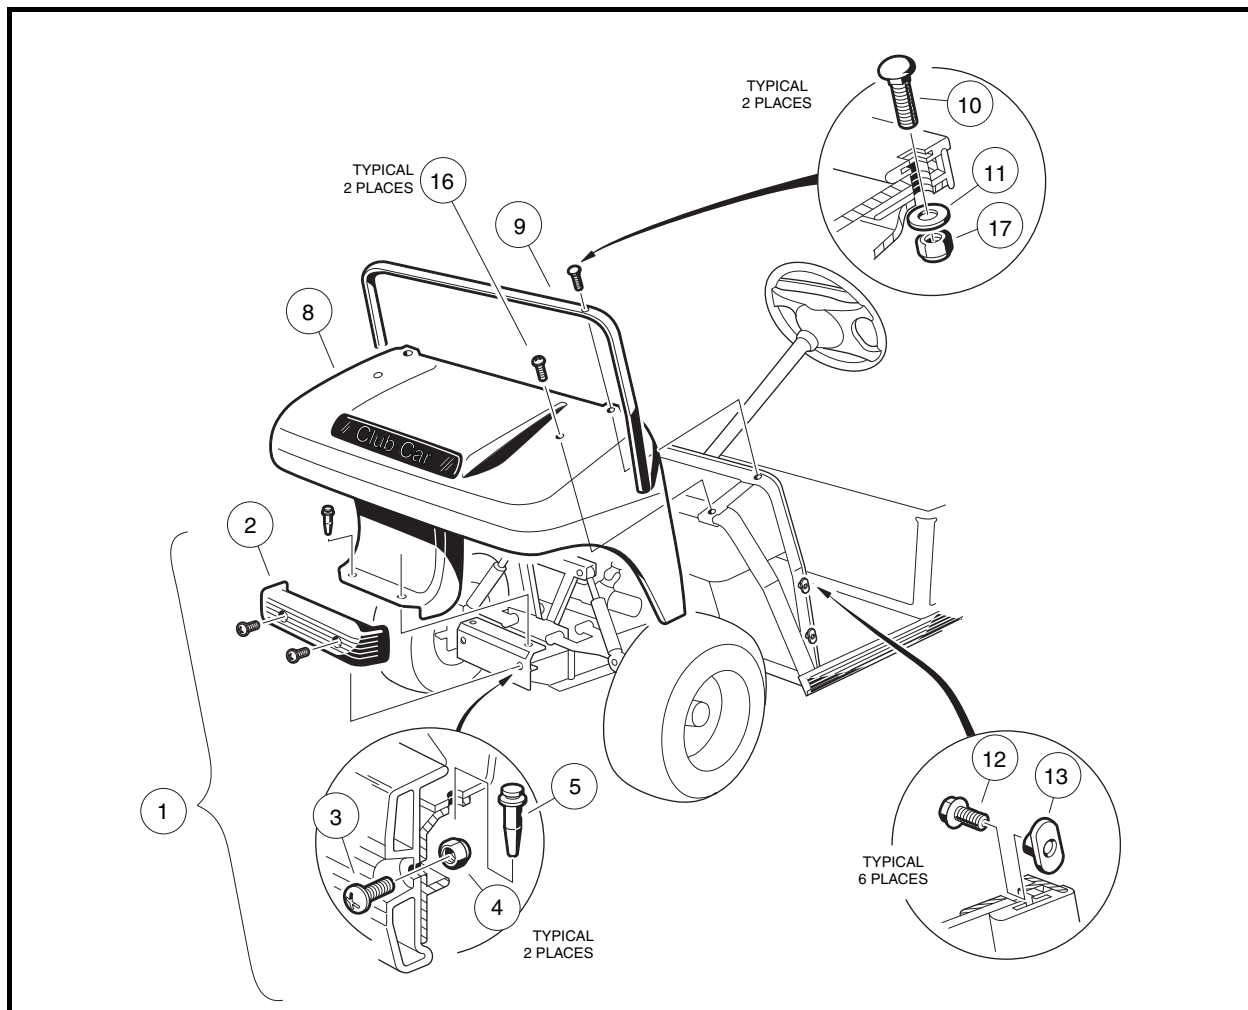

Figure 4-1 Front Body Assembly
3. Remove screws (3) and lock nuts (4) and lift front bumper (2) from vehicle frame (**Figure 4-1, Page 4-2**).
4. Remove blind rivets (5).
5. Remove carriage bolts (10), lock nuts (17), and washers (11) from front body trim. Remove screws (16) from top of front body.
6. Loosen, but do not remove, screws (12) holding front body trim against front body.
7. Pull front body (8) from under trim (9) and remove the body from the vehicle.
1. Install front body (8) under trim (9), align holes and finger-tighten screws (16) holding front body against frame (**Figure 4-1, Page 4-2**).
2. Install carriage bolts (10), washers (11) and lock nuts (17) onto front body trim. Tighten bolts to 11 ft-lb (14.9 N·m). Tighten screws (16) to 20 in-lb (2.3 N·m).
NOTE: If installing a new front body, two 5/16-inch holes must be drilled after the body has been placed on the vehicle. Use the body trim (9) as a guide for drilling the holes (**Figure 4-1, Page 4-2**).
3. Tighten screws (12) holding front body trim against front body to 17 in-lb (1.9 N·m).
5. Install push-type blind rivets (5) that secure lower part of front body to frame.
6. Install front bumper onto vehicle with screws (3) and lock nuts (4). Tighten to 65 in-lb (7.3 N·m).